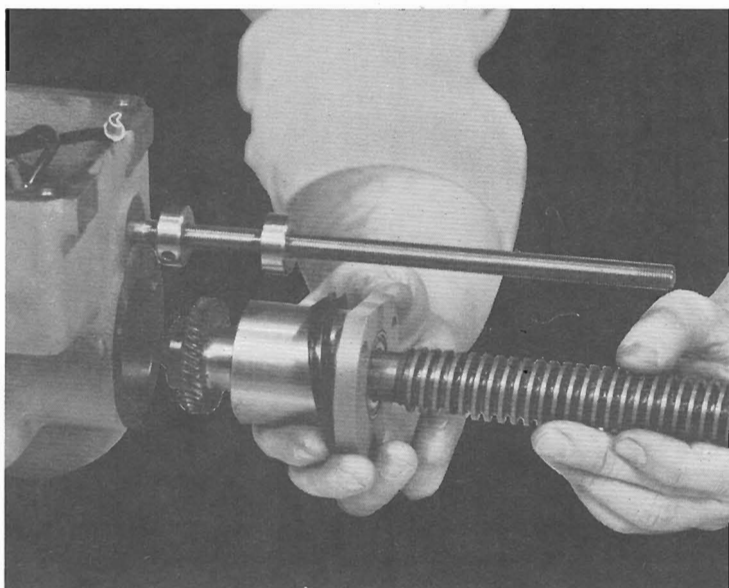

Figure 77 — Feed Screw Removal
6. Remove three screws "E", Figure 76, and remove vertical screw assembly, Figure 77.
NOTE: On later model machines worm wheel "H" has been replaced with a straight tooth wheel and shims shown in Figure 77 are no longer necessary.
9. Replace vertical screw assembly in drive housing, Figure 77, and replace three screws "E", Figure 76. (Grease worm and wheel with Andox "B" grease.)